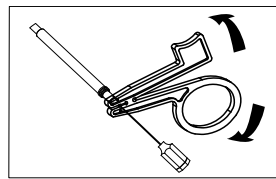

Figure 13. Attaching and rotating the fixation tool.
1. When the correct position has been achieved, attach the fixation tool to the terminal pin. Press the handles together and place the pin in the preformed groove. Release the tension on the handles to secure the terminal pin in the fixation tool (Figure 13).